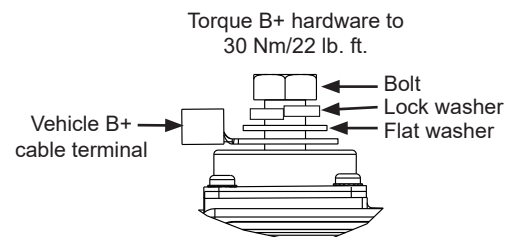

Figure 2: B+ Terminal Hardware Stacking Order
11. Connect vehicle B+ cable to alternator B+ terminal. Install hardware on B+ terminal in stacking order shown in Figure 2. Torque to 30 Nm/22 lb. ft.